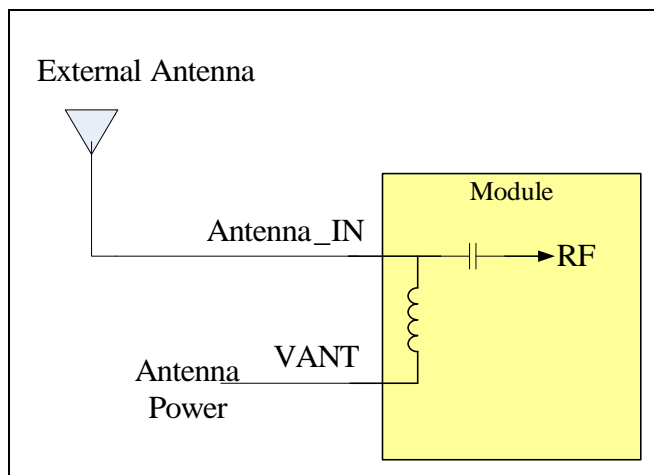

Figure Mode 1 (Internal chock coil)
- Mode1 (**ex. Not Definition**), the power supply for the External Antenna needs to be externally feed into pin VANT of the module and connect to Antenna IN via a internal chock coil. See Figure Mode 1.